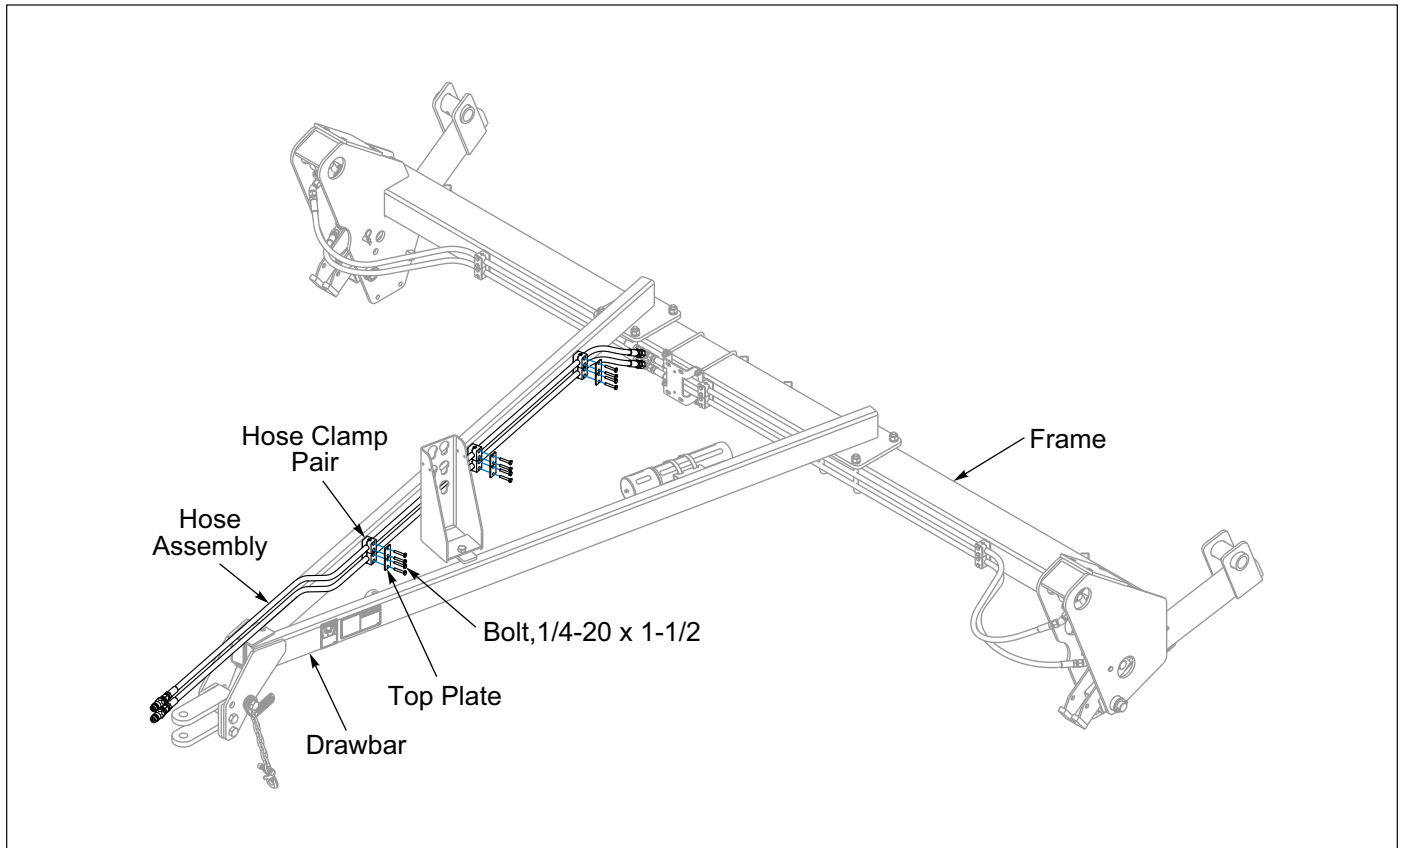

Figure 2-12: 8FT and 10FT Drawbar Hydraulics
2. Route the Drawbar Hydraulic Hoses along Drawbar toward the Tractor. Secure Hoses to Drawbar with Hose Clamp Pairs, Top Plate and 1/4-20 x 1-1/2 Bolt. See **Figures 2-12 and 2-13**.